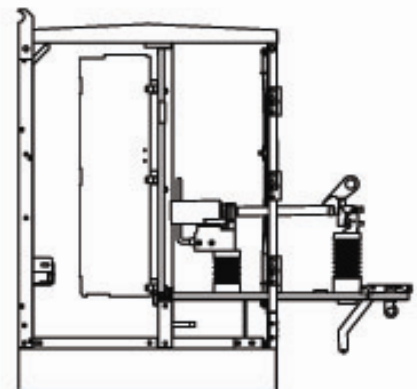

Figure 5
4. Slowly pivot fuse door out and down into full open position. (Figure 5)